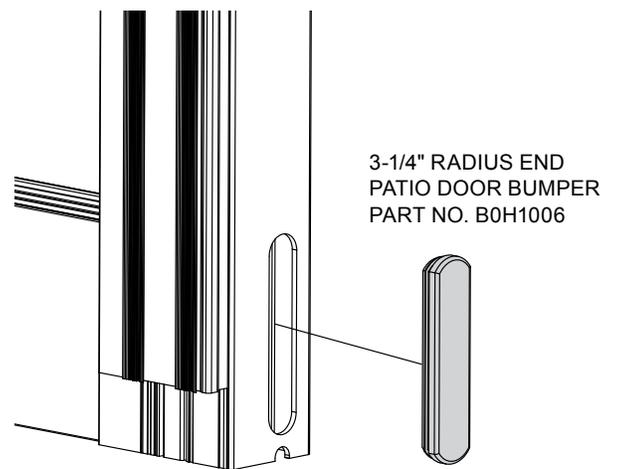

FIG. 18
6. Install the 3-1/4" Radius End Patio Door Bumper. (FIG. 18)